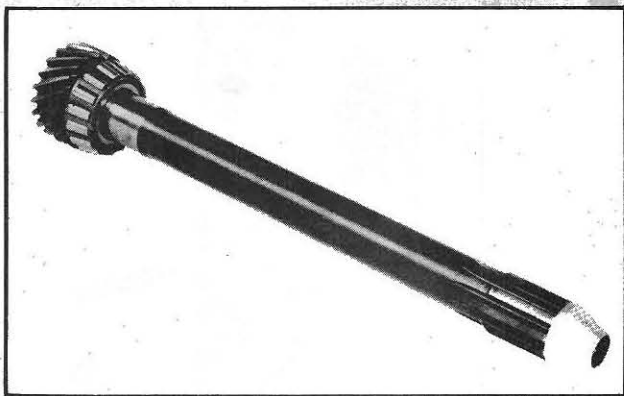

Fig. 245
6. Install the transmission main shaft bearing retainer assembly in the front of the transmission housing using new gasket. Torque the cap screws to 24-28 pound-feet. If the area where the seal engages the main shaft gear is rough, polish with crocus cloth. Slip the special protector cap over the end of the main shaft gear, see Fig. 245 and carefully slide the shaft through the oil seal into place in the retainer.